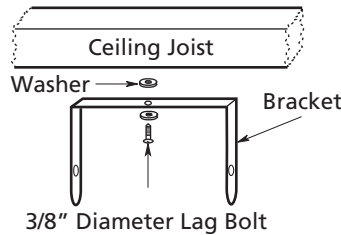

Figure 4a – Single-Screw Mounting
Refer to Figures 4a and 4b.
**NOTE:** If you want to swivel the heater either to the right or left, adding a washer to both sides of the bracket is recommended. A longer lag bolt may be required to properly secure the unit (see Figure 4a).
1. Turning the Unit – If the unit has been installed with a single lag bolt, as shown in Figure 4a, simply turn the entire unit as needed to adjust airflow.